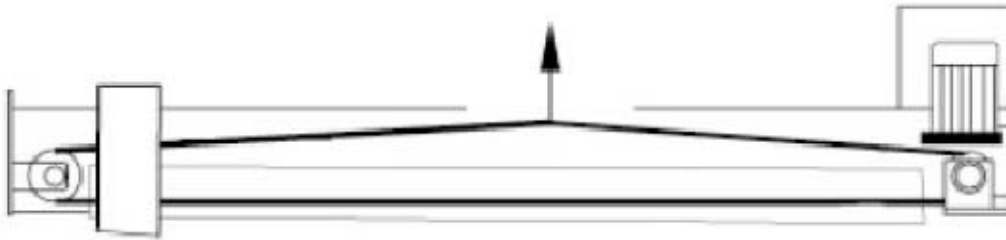

Fig. 5-25 Belt access area
4. See Figure 5-25. Move the carriage against the flange near the snub pulley.